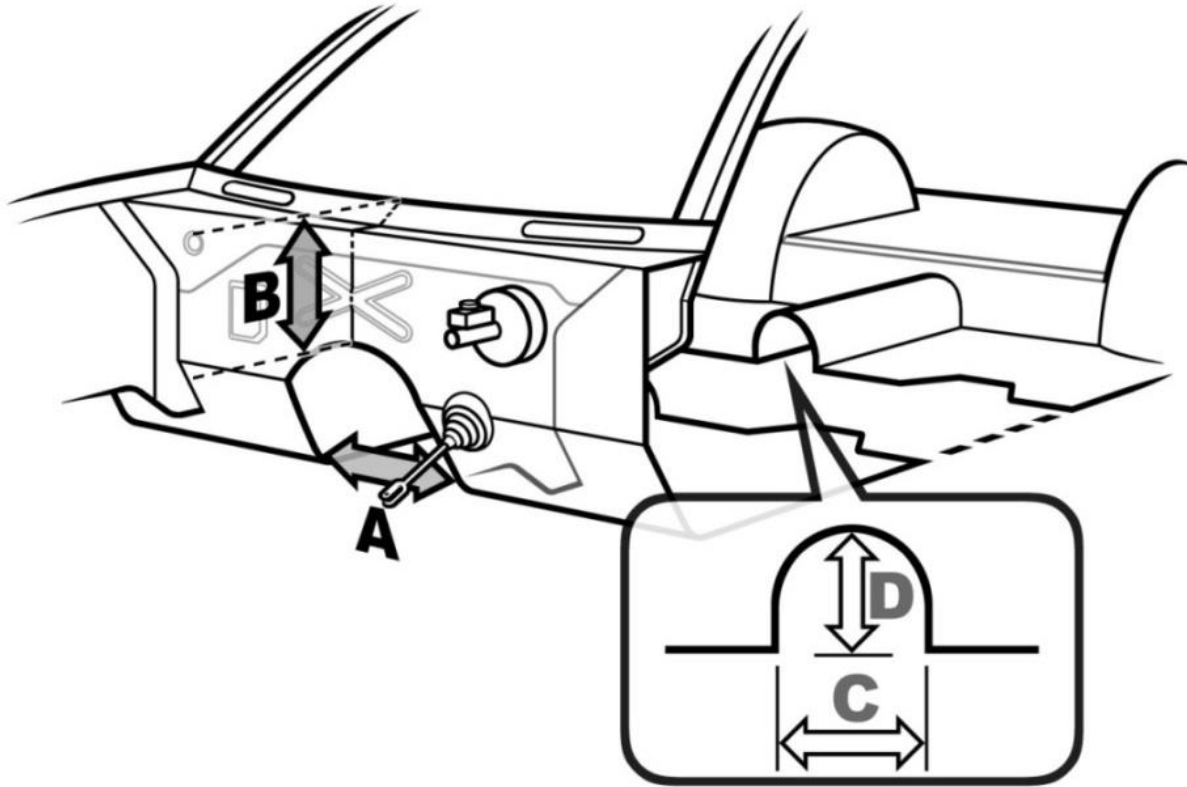

Figure 5
A. Modifications of the stock, OEM firewall and transmission tunnel are in Figure 5: